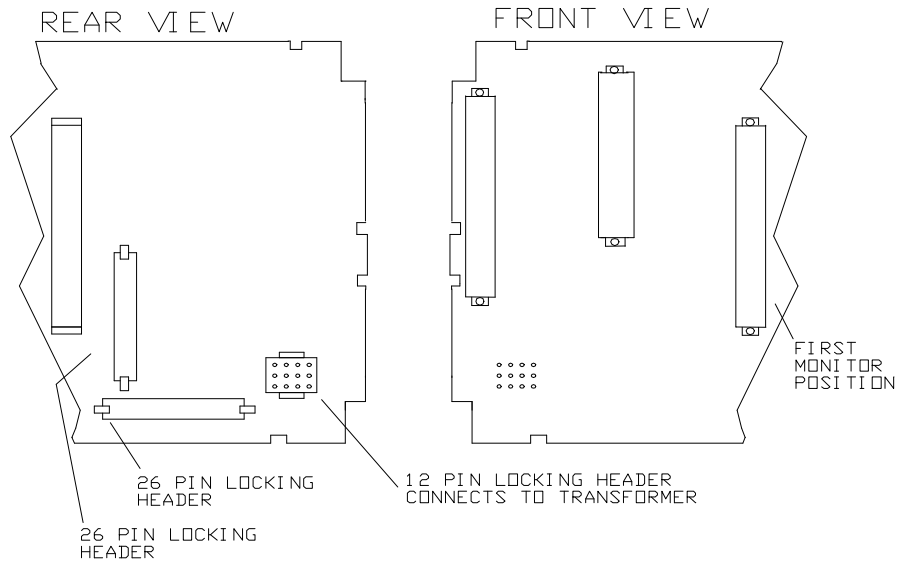

Figure 6
3. Observe the location and position of the connectors on the backplane behind the Power Supply and System Monitor rack slots. Use the front view of the backplane shown in **Figures 6, 7 and 8** to identify your backplane.
Two versions of the backplane may be installed in an original system. Identifying features are shown in Figures 6 and 7, below.